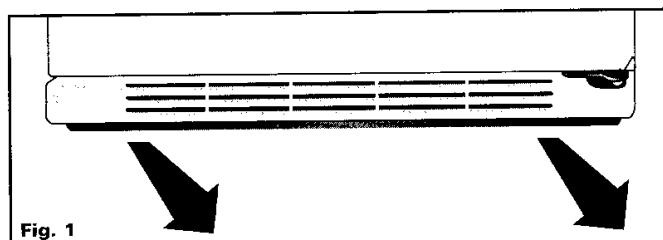

Fig. 1
- Remove the base grille by grasping both ends and pulling straight out (see fig. 1).